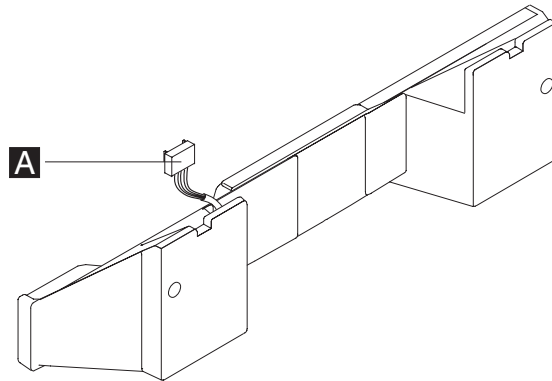
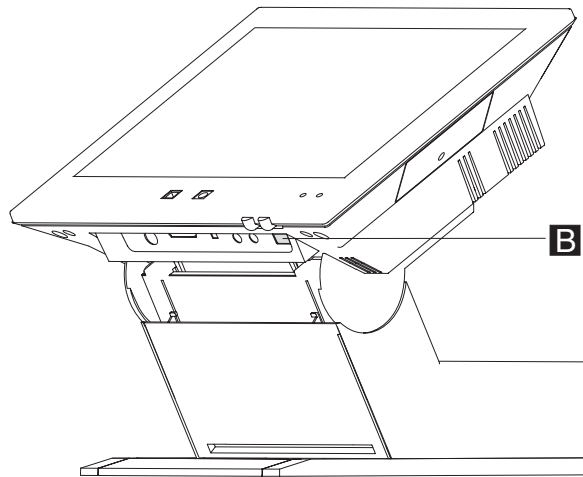

Figure 60. Stereo-speaker kit
Figure 61. Disconnecting the speaker-kit cable
2. Tilt the display to its rearmost position and, holding the speaker kit parallel to the front edge of the display, unplug the cable (**A** in Figure 60) from the connector (**B** in Figure 61) at the lower right front of the display.